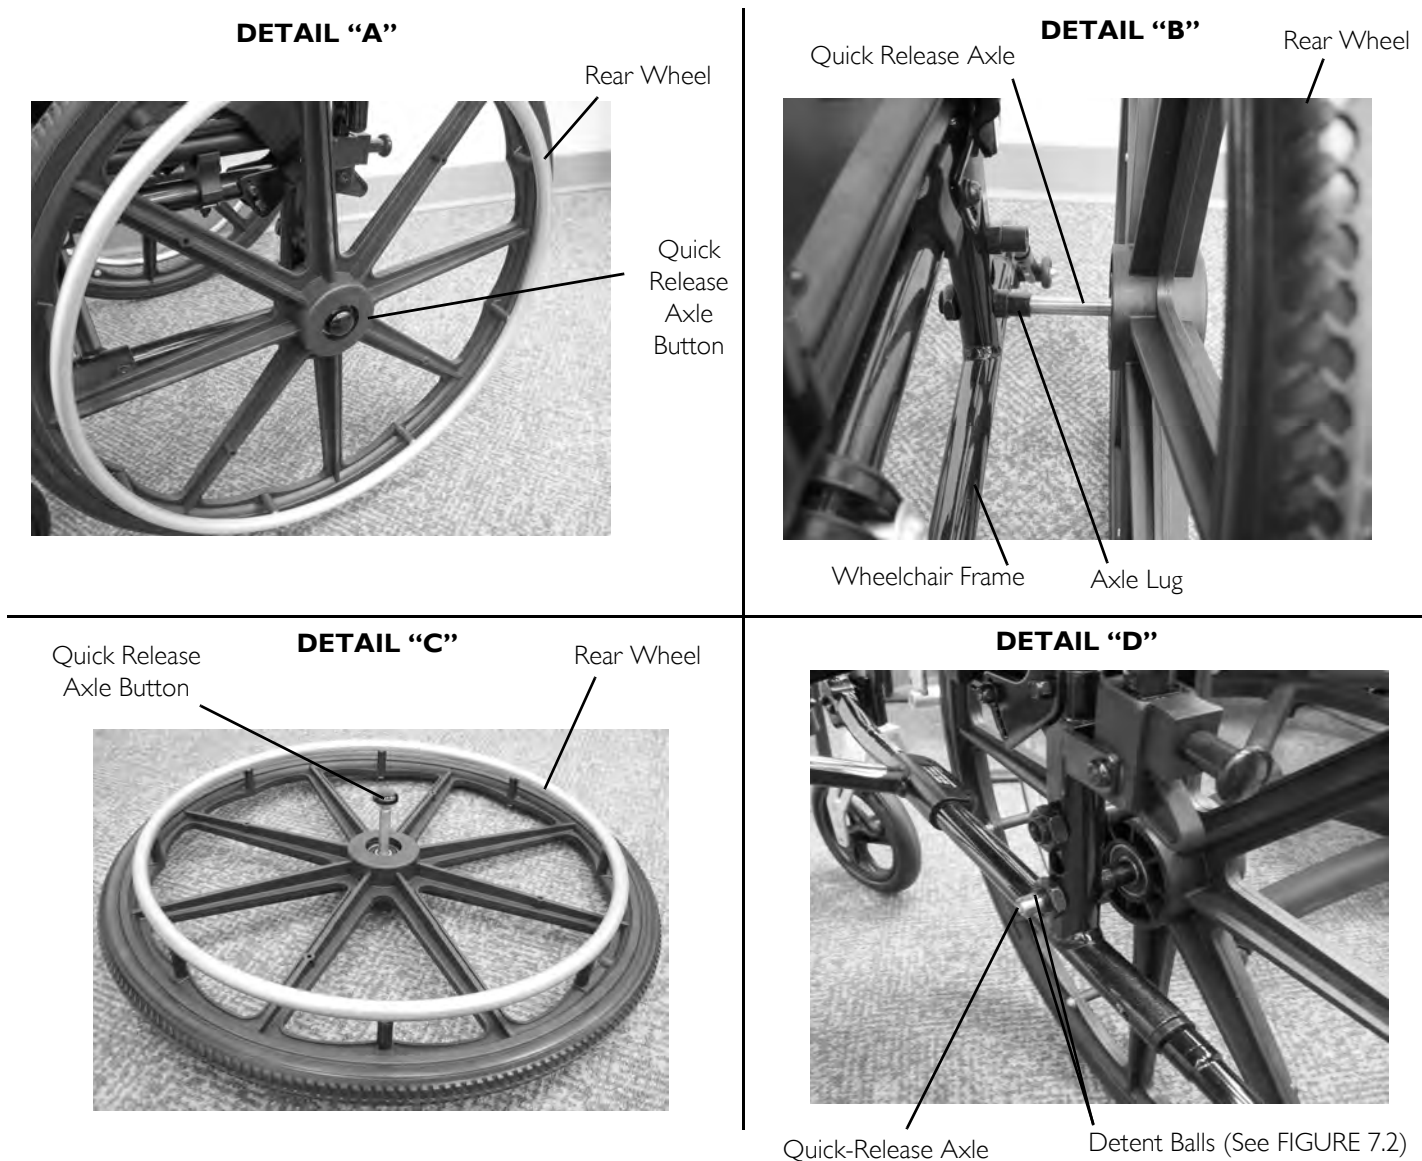
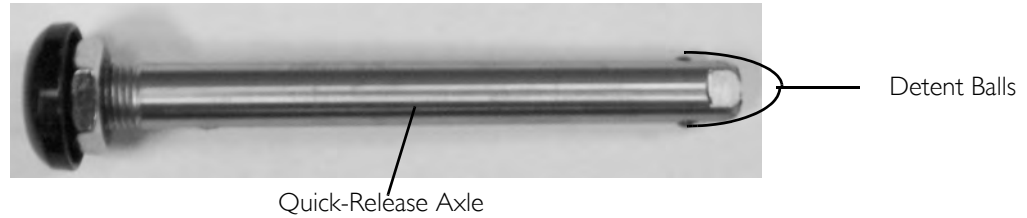

FIGURE 7.1 Removing/Installing Rear Wheels - Removing
FIGURE 7.2 Adjusting Quick-Release Axle
NOTE: For this procedure, refer to FIGURE 7.1 on page 31.
NOTE: For this procedure, refer to FIGURE 7.1 and FIGURE 7.2 on page 32.
1. Push in the quick release axle button and pull the quick release axle with rear wheel out of the axle lug in the wheelchair frame (FIGURE 7.1).
2. Push in the quick release axle button again and pull the quick release axle out of the rear wheel (FIGURE 7.1).
3. Release quick release axle button and ensure that the detent balls are fully released (FIGURE 7.2).